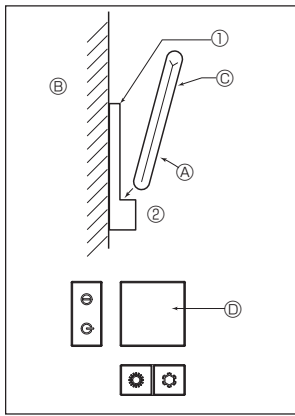
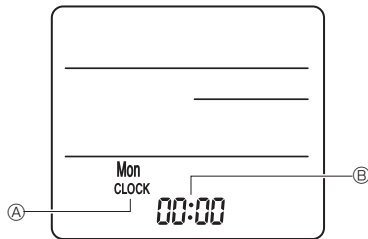

Fig. 7-7
Fig. 7-8
2) Installation method (Fig. 7-7)
- ① Attach the remote controller holder to the desired location using 2 tapping screws.
- ② Place the lower end of the controller into the holder.
3) Setting (Clock setting) (Fig. 7-8)
- ① Insert batteries or press the **CLOCK** button with something sharp. [CLOCK] Ⓐ and [:] Ⓑ blinks.
- ② Press the **RESET** button with something sharp.
- ③ Press the **▲** button to set the time. Press the **DAY** button to set the Day.
- ④ Press the **CLOCK** button with something sharp at the end. [CLOCK] and [:] lighted.